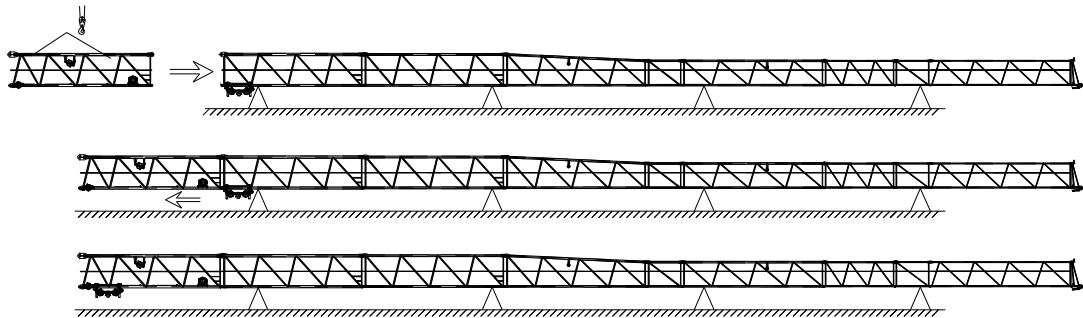

Fig. 4-31 Installing jib I
- 3) Jib I installation connected to jib assembly section, and then remove the trolley to the jib I roots and fixed, see Fig. 4-31.